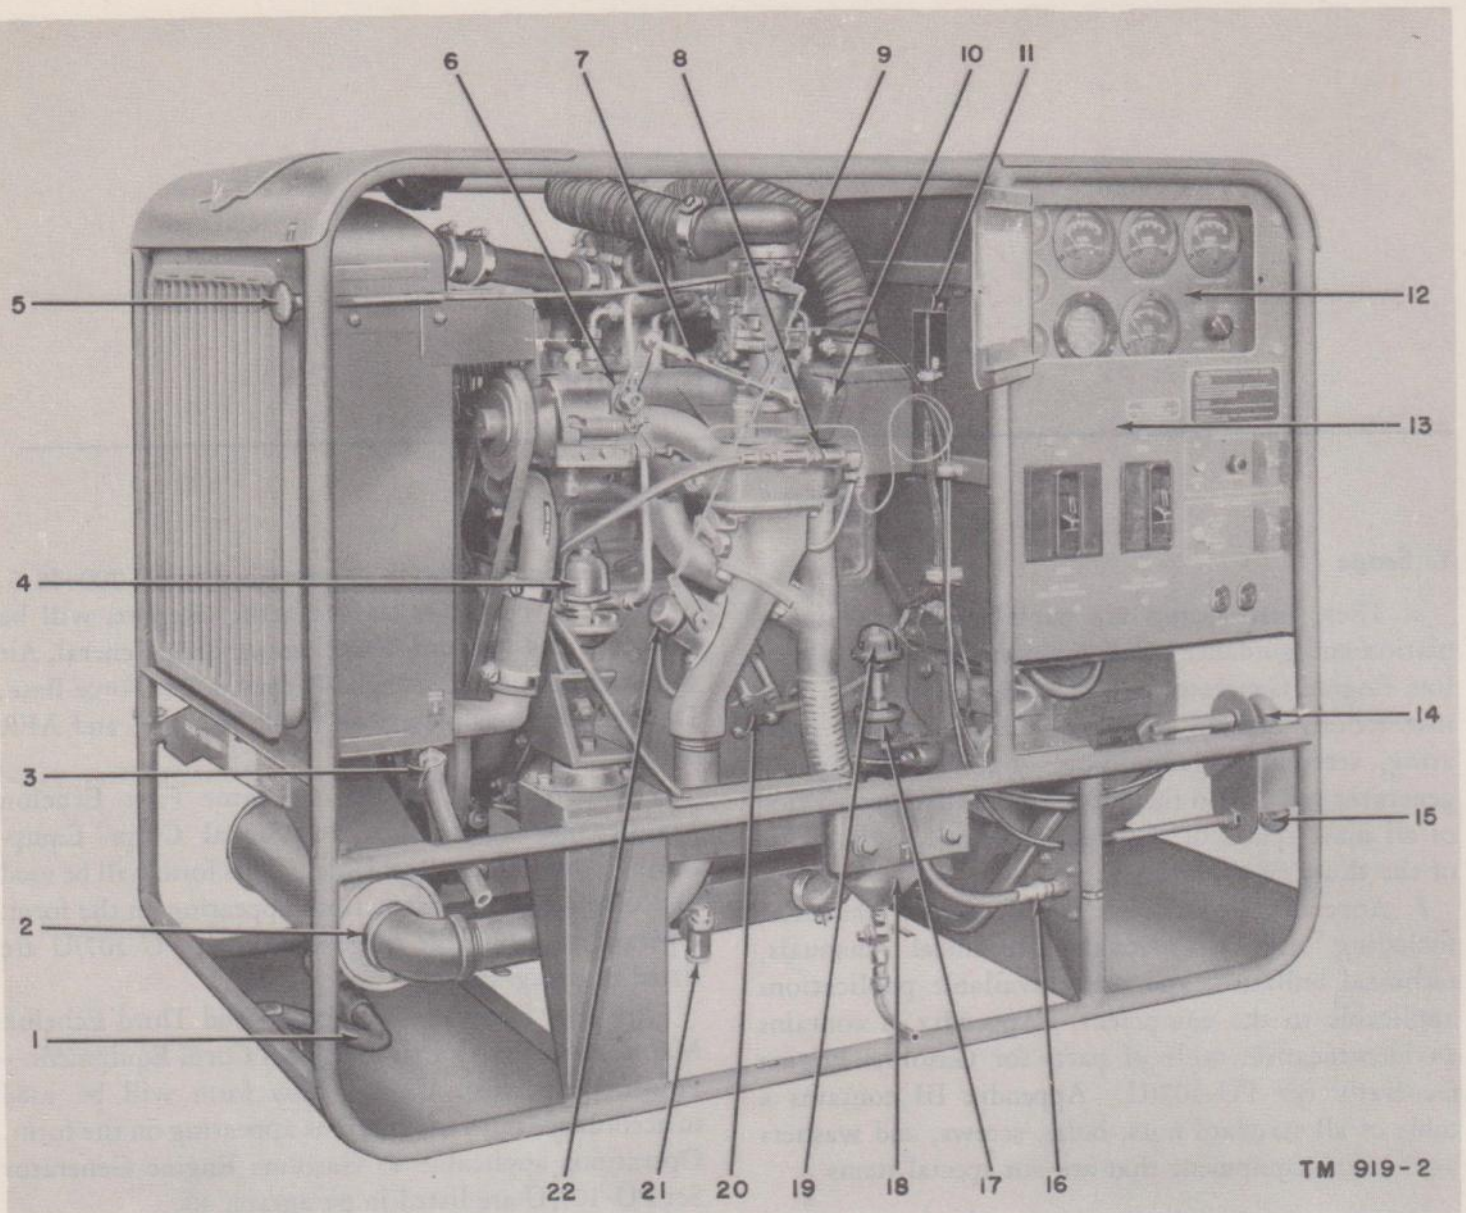
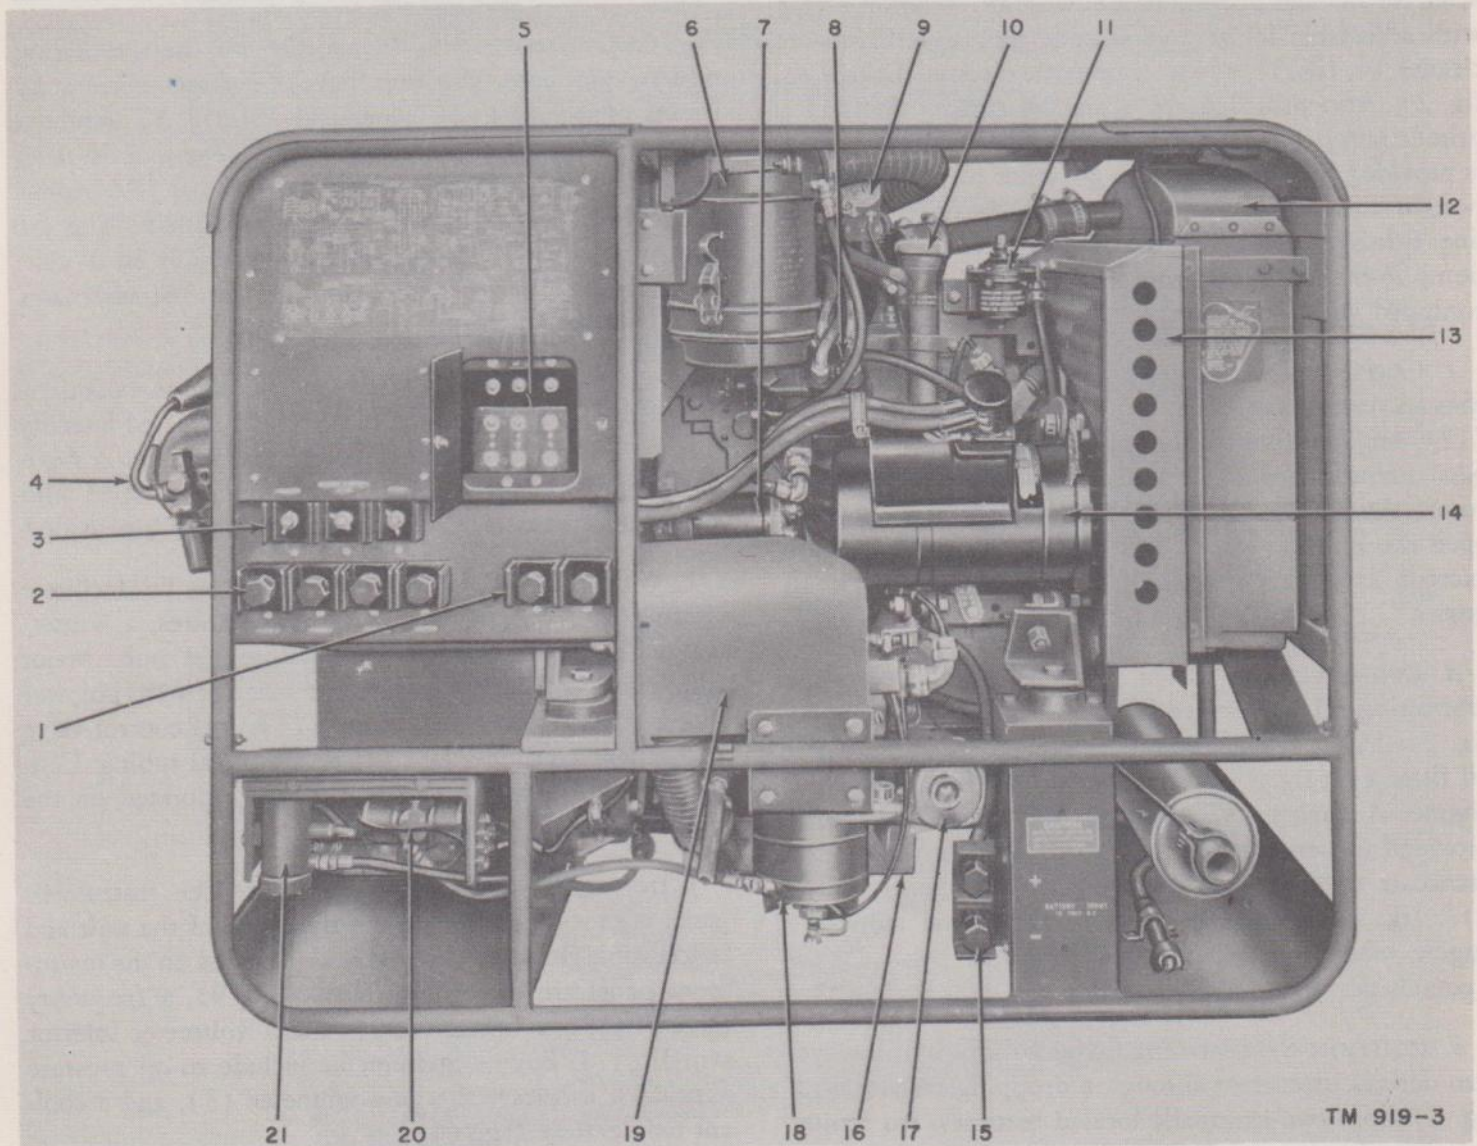

Figure 2. Gasoline Engine Generator Set PU-107/U, right view.
Figure 3. Gasoline Engine Generator Set PU-107/U, left view.
b. FUEL SYSTEM (fig. 2). The major components of the fuel system include a disk-type fuel filter (18, fig. 2), a reciprocating-diaphragm fuel pump (4) with a lever for manual operation, a downdraft carburetor (9) with adjustable idling and altitude jets, an oil-bath air cleaner (6, fig. 3), and an automatic electric choke (22, fig. 2). Also provided are a manual choke (5), and a primer pump (14). A manually operated throttle (15) is provided for overriding the governor to permit operation of the engine at idling speeds. An auxiliary fuel line, furnished with the unit, is used to connect the fuel pump to the fuel supply source. (The generator set is not equipped with an integral fuel tank.)
c. COOLING SYSTEM (fig. 3). The cooling system consists essentially of a standard tubular-cell radiator (12), engine-driven water pump, pusher-type fan, bypass thermostat, and an adjustable coolant temperature cutoff switch (9). The switch is set at the factory to open the ignition circuit when the coolant temperature exceeds 200° F. Capacity of the cooling system is 16 quarts.
d. LUBRICATION SYSTEM. Circulation of the engine lubricating oil is provided by a gear-type oil pump (20, fig. 2) driven from a spiral gear on the camshaft. An oil filter (11, fig. 3) is mounted on the left side of the engine. A bayonet-type gage, in the oil filler tube, is provided to permit checking the oil level in the engine crankcase (10, fig. 3). A low-oil-pressure cutoff switch (17, fig. 2) opens the ignition circuit and stops the engine whenever the oil pressure drops below 5 psi (pounds per square inch).
e. IGNITION SYSTEM. The 6-volt battery ignition system derives its current through a dropping resistor (10, fig. 4) from two externally located batteries. An igniter assembly (8, fig. 3), mounted on the left side of the engine, consists of a camshaft-driven distributor, a capacitor, and an ignition coil. The spark plugs and ignition cables are suitably waterproofed and are shielded to prevent radio frequency radiation. An IGNITION MANUAL START—REMOTE START switch (16, fig. 11) is located on the control panel.
f. STARTING SYSTEM. A 12-volt d-c, solenoid-controlled starting motor (7, fig. 3), mounted on the left side of the engine, is energized by two 6-volt batteries connected in series. The starting system also includes a start relay (11, fig. 4), a hold relay (8, fig. 4), and a battery-charging relay (12, fig. 4). A START—STOP switch (15, fig. 11) is located on the control panel. The
batteries are charged by means of a dry-disk selenium rectifier (7, fig. 4) and a transformer (2, fig. 4). A hand crank (1, fig. 2) for manual starting is mounted on the front skid in the lower frame. Facilities are provided, also, for starting and stopping the unit from a remote station. Packaged with the unit is one 6-foot cable for connecting the batteries to the start solenoid, one 6-foot cable for connecting the batteries to ground, and one short cable for the battery-to-battery connection.
g. D-C GENERATOR. In addition to the alternating current produced, the unit develops direct current by means of a 28-volt d-c generator (14, fig. 3) mounted on the left side of the engine. This generator is rated at 2.5 kw at 4,550 rpm (with engine speed at 1,714 rpm) and is belt-driven from the engine crankshaft. The d-c generator voltage is controlled automatically by a voltage regulator (5, fig. 4) mounted on the alternator stator housing.
h. EXHAUST SYSTEM (fig. 2). The engine exhaust is carried by rigid pipe to the muffler (2), located laterally across the front of the unit, below the radiator. A flexible exhaust extension tube, 10 feet long, equipped with adapters for ease in attachment to the muffler is provided.
i. WINTERIZATION SYSTEM (fig. 3). To facilitate starting the equipment in low temperatures, a winterization system is incorporated within the unit. Major components of the system include a heater (18), blower motor (17), electric fuel pump (21), fuel control valve (20), heat exchanger pan (16), and metal tubing. Controls for operating this system are incorporated on the control panel (fig. 11).